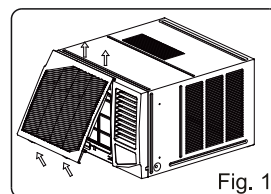

Fig. 1
2. Hold the slot under the front panel, then uplift it outwards, and remove the front panel (See Fig. 1).